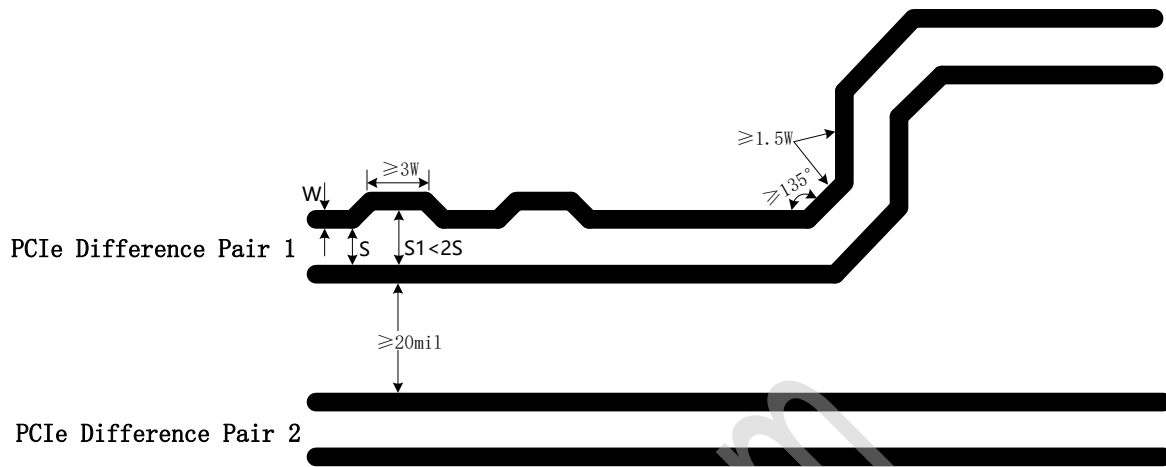

Figure 3-13 Requirement of PCIe line
- Try to avoid bended lines and avoid introducing common-mode noise in the system, which will influence the signal integrity and EMI of difference pair. As shown in Figure 3-13, the bending angle of all lines should be equal or greater than 135°, the spacing between difference pair lines should be larger than 20mil, and the line caused by bending should be greater than 1.5 times line width at least. When a serpentine line is used for length match with another line, the bended length of each segment should be at least 3 times the line width ($\geq 3W$). The largest spacing between the bended part of the